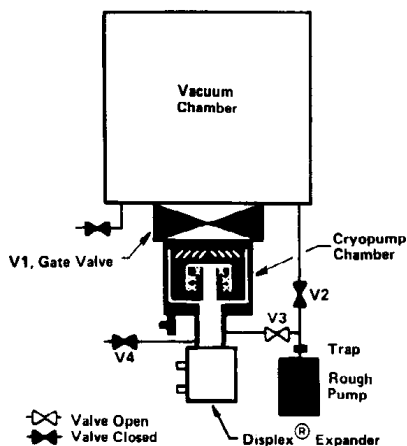

Figure 12 Evacuate the Cryopump Vacuum Enclosure
1. Before starting the cryopump, rough pump the vacuum enclosure to 5×10^{-2} torr (50 microns of mercury) to establish an insulating vacuum. See Figure 12.
Evacuate the cryopump to a pressure of 5×10^{-2} torr (50 microns of mercury). See Figure 12.